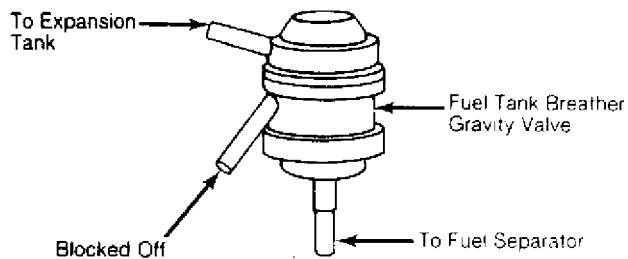

Fig. 4: Checking Gravity Valve Operation (All Models Except Vanagon)
1) Remove hoses from gravity valve. Remove valve from body, above and to the right of the fuel tank. See Fig. 4. Attach one end of a hose to valve's expansion tank port. Submerge other end of hose